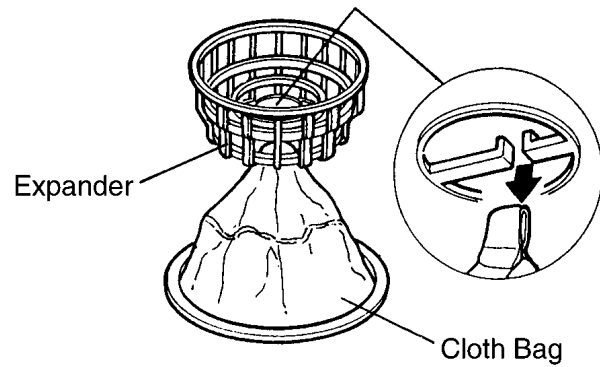

Fig.9
1. Remove the Cloth Bag from the Expander. (Fig.9)